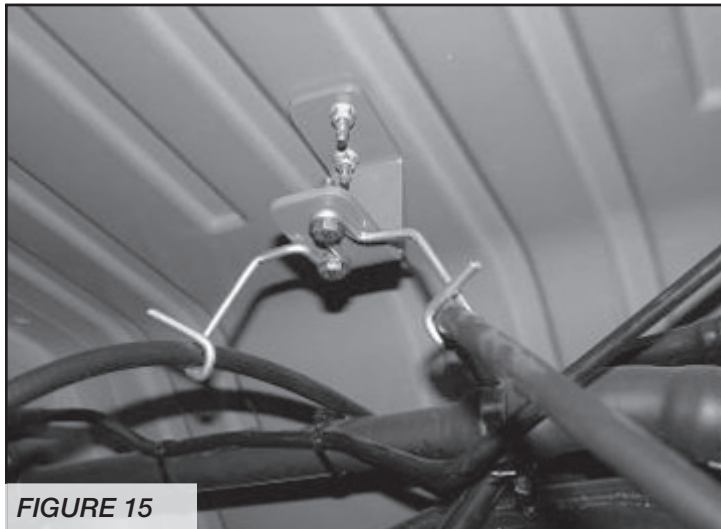

FIGURE 15
20. Locate FT50298 E-Brake Bracket and supplied 1/4" hardware. Position the bracket to the factory mounting position and attach with the factory hardware. Attach the factory bracket to the new Fabtech bracket with the 1/4" hardware. Torque to 10 ft -lbs. SEE FIGURE 15